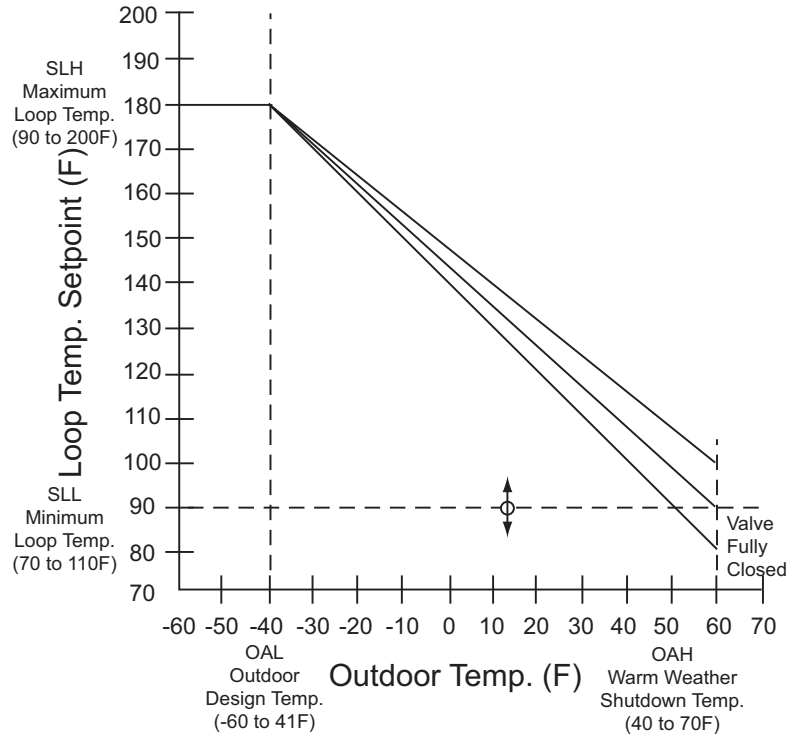
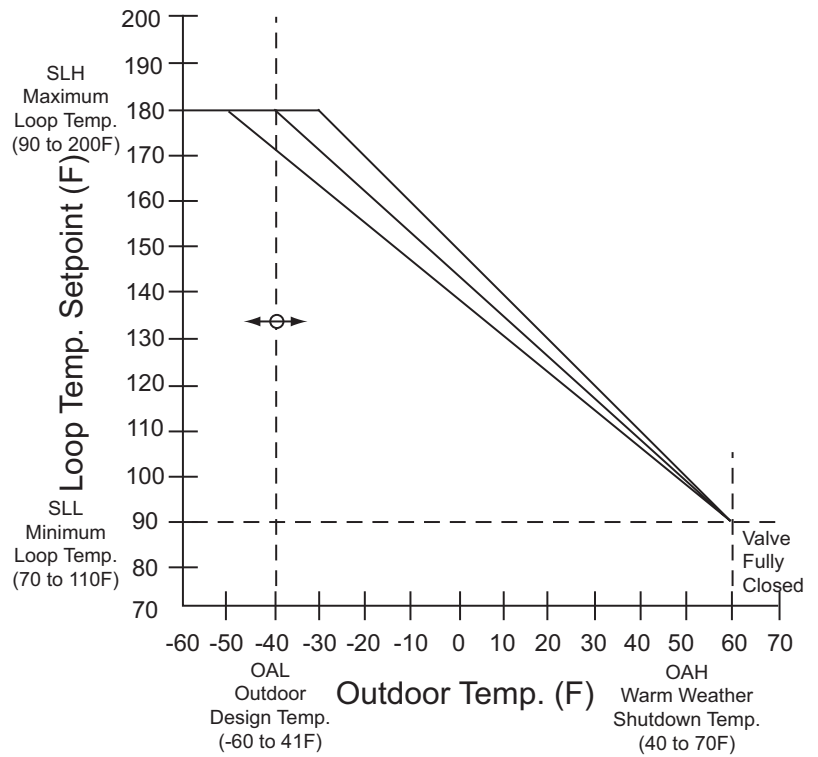

Figure-6 Adjustment of SLL for Proper Floor Temperature When Warmer Outside.
Figure-7 Adjustment of OAL for Proper Floor Temperature When Colder Outside.
Three sensors provide feedback for the control system. The colder it is outside the warmer the desired water temperature or Secondary Loop Setpoint (SLS). At design temperature (OA = OAL), SLS = SLH. At warm weather shutdown (OA = OAH), SLS = SLL. Between OAL and OAH, SLS is determined by a straight line relation. See Figure-6 and Figure-7. The modulating valve output is enabled whenever there is a heat demand. To provide the proper temperature in the radiant loop, the valve output is controlled using a proportional-integral (PI) algorithm.
1. If heating is inadequate at relatively warmer outdoor temperatures (below OAH) increase the minimum loop temperature (SLL) by 5 to 10F degrees. See Figure-6.
2. If heat output is excessive at relatively warm outdoor temperatures (below OAH) decrease the minimum loop temperature (SLL) 5 to 10F degrees. See Figure-6.
If heating is inadequate at relatively cold outdoor temperature (above OAL) raise OAL by 5 to 10F degrees. See Figure-7. If the outdoor temperature is below OAL the SL temperature should be at its maximum.
3. If the heat output is excessive at moderately cold outdoor temperatures (above OAL), decrease the outdoor design temperature (OAL) by 10 to 20F degrees. See Figure-7. If the outdoor temperature is at or below OAL, SLH may be decreased by 10 to 20F degrees.